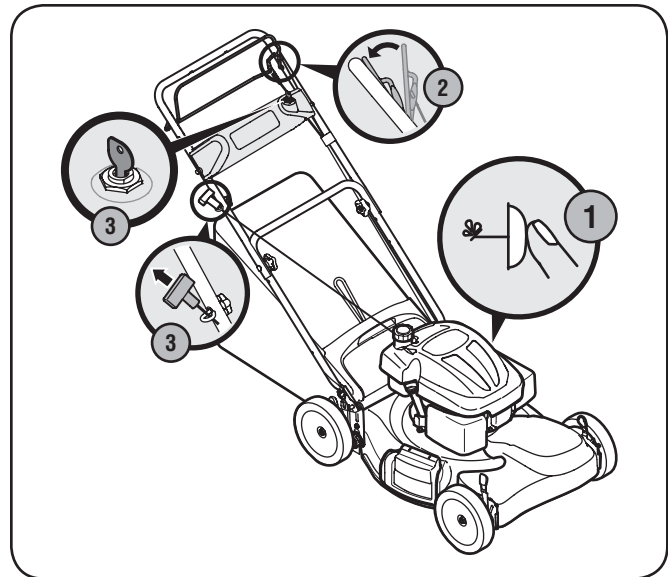

Figure 5-1
1. Push primer 3 times. Wait about two seconds between each push. See Fig. 5-1. In temperature below 50°F, prime 5 times. After the engine is warmed up, one prime may be needed for all temperatures.
3. **Recoil Start:** Pull the recoil starter lightly until resistance is felt, then pull rapidly to overcome compression, prevent kickback, and start the engine. Repeat if necessary. See Fig. 5-1.
Electric Start: Turn ignition key to the right to start the engine. Release the key after the engine starts. See Fig. 5-1.